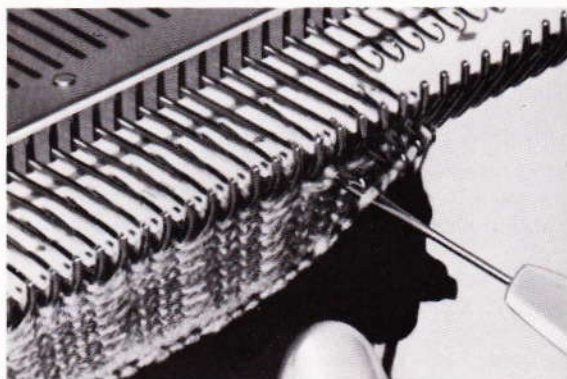

Fig. 72
8. Fold hem in half and with the transfer tool place the stitches of first row in main yarn as follows (fig. 72):—